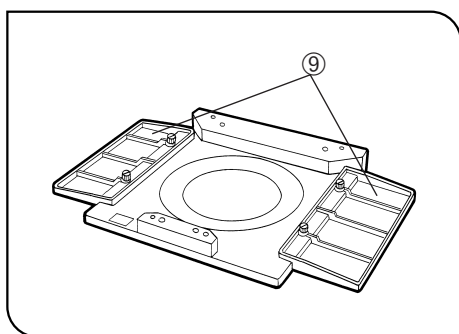

Fig. 88
Ⓞ When the mechanical stage is not used, substages ⑨ can be attached at both sides of the plain stage. (Fig. 88)